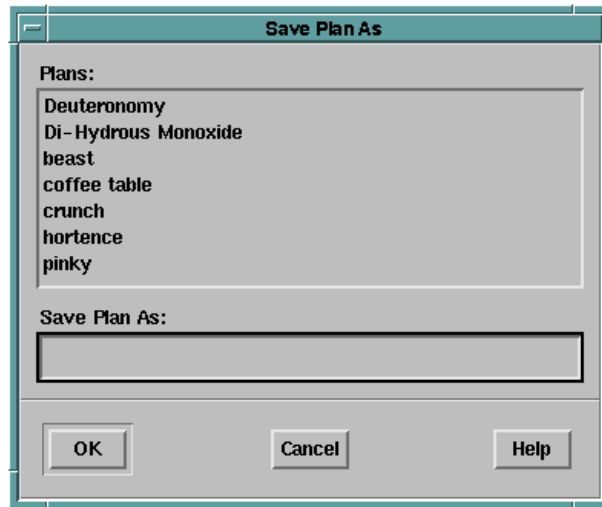

Figure 8.5.6-1. Save As Plan Dialog Box
1. Choose **Save As...** under the File menu. A Save As dialog box opens (see Figure 8.5.6-1).